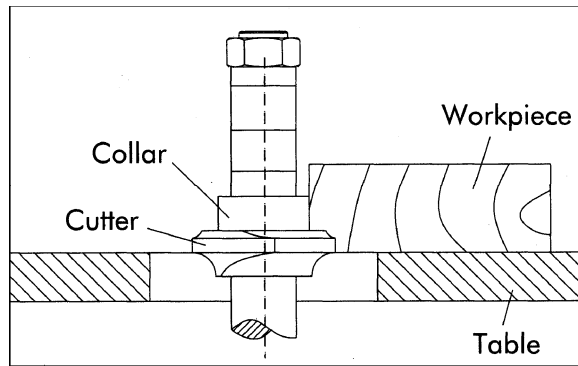

Figure 32
- When the collar is used above the cutter, as shown in Figure 32, the cut cannot be seen, but this method offers an advantage in that the cut is not affected by slight variations in the thickness of the stock. Also, accidental lifting of the workpiece will not gouge the workpiece; simply repeat the operation to correct the mistake.